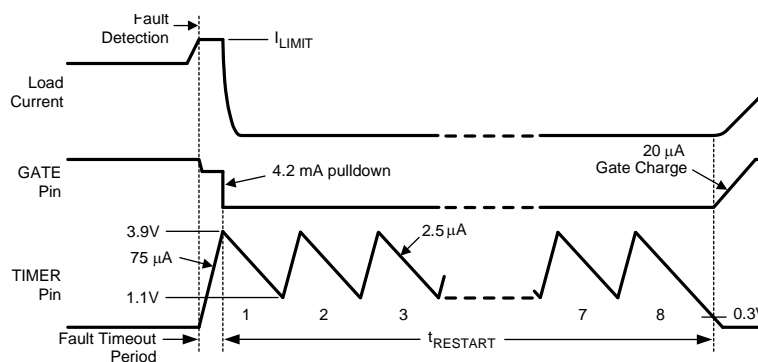

Figure 4. Restart Sequence
The LM5066 provides an automatic restart sequence which consists of the TIMER pin cycling between 3.9V and 1.1V seven times after the Fault Timeout Period, as shown in Figure 4. The period of each cycle is determined by the $75\ \mu\text{A}$ charging current, and the $2.5\ \mu\text{A}$ discharge current, and the value of the capacitor C_T . When the TIMER pin reaches 0.3V during the eighth high-to-low ramp, the $20\ \mu\text{A}$ current source at the GATE pin turns on Q_1 . If the fault condition is still present, the Fault Timeout Period and the restart sequence repeat. The $\overline{\text{RETRY}}$ pin allows selecting no retries or infinite retries. Finer control of the retry behavior can be achieved through the DEVICE_SETUP (D9h) register. Retry counts of 0, 1, 2, 4, 8, 16 or infinite may be selected by setting the appropriate bits in the DEVICE_SETUP (D9h) register.
C) Restart Timing For the LM5066, after the Fault Timeout Period described above, C_T is discharged by the 2.5 μA current sink to 1.1V. The TIMER pin then cycles through seven additional charge/discharge cycles between 1.1V and 3.9V as shown in Figure 4. The restart time ends when the TIMER pin voltage reaches 0.3V during the final high-to-low ramp. The restart time, after the Fault Timeout Period, is equal to: